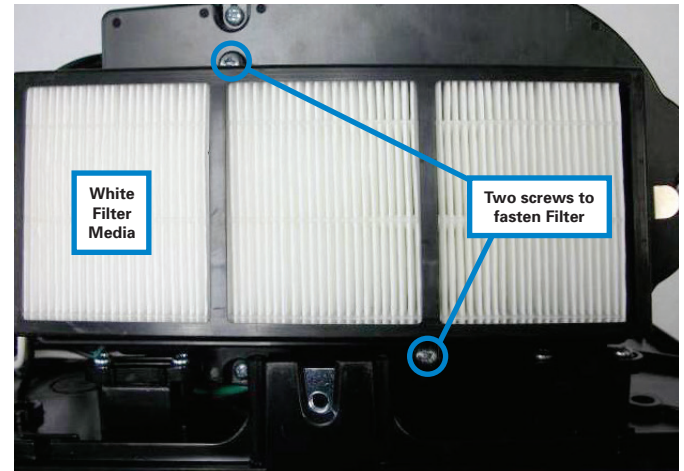

Figure 17
**13.** Take the HEPA Filter (B) out of the clear sealed plastic wrap and insert the Filter into the Filter Adapter. **DO NOT touch the white filter media, as this can result in reduced performance and efficiency.** The side with the foam gasket around the perimeter of the filter should be placed into the Filter Adapter first. Position the filter so that the label is facing away from the wall as shown in **Figure 18**. Fasten the filter to the Filter Adapter with the two screws previously removed in Step 2 (**Figure 17**).